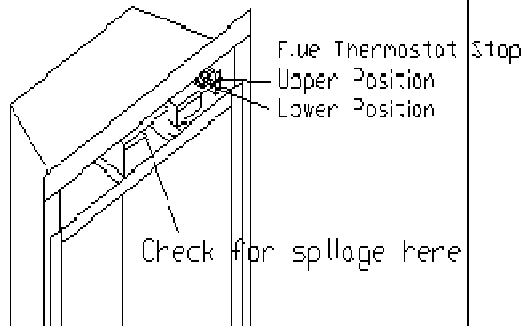

Figure 5
3. Test for spillage using a smoke match (in a 'Blume tube') at the top of the appliance, fireplace opening or under the canopy at the centre, with the smoke match being approximately 25mm under and 12-15mm inside the opening (see **Figure 5**).